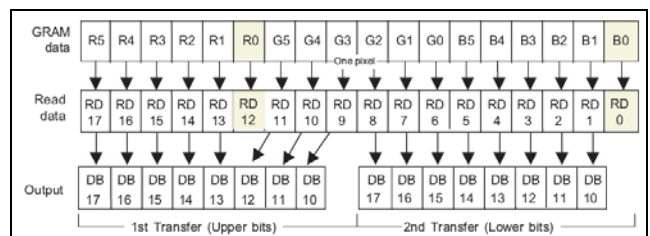

Figure 6-23 8-bit interface / SPI
**Figure 6-23** illustrates the pin assignment among data bus (DB17-0), R22 (RD17-0) and GRAM in read data instruction.